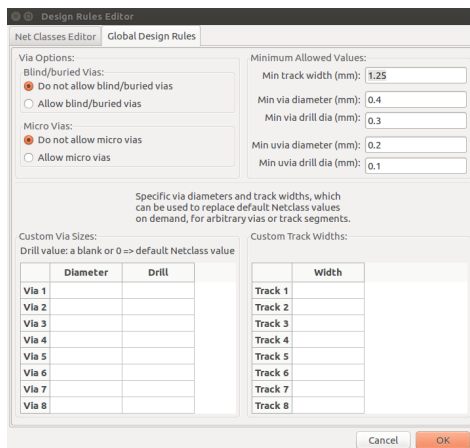

Figure 12.17: Design Rules Editor Window: Global Design Rules
3. Click on **Global Design Rules**, under **Minimum Allowed Values**, locate **Min track width**, erase the default value and enter 1.25 in the data entry field on the right side of it as shown in Fig. 12.17. This will ensure that all tracks placed are of width 1.25mm and that when we perform **Design Rules Check**, the checks